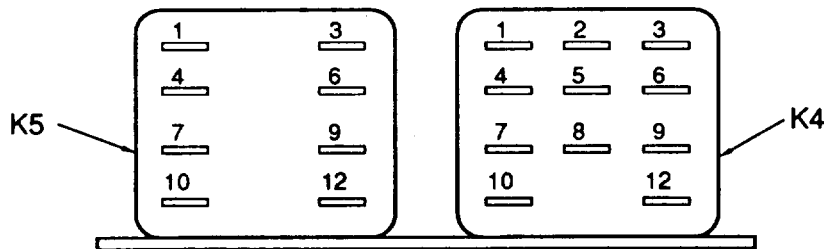

Figure 4-27. Relays K-4 and K-5
(3) Relays K4 and KS. (See figure 4-27.)